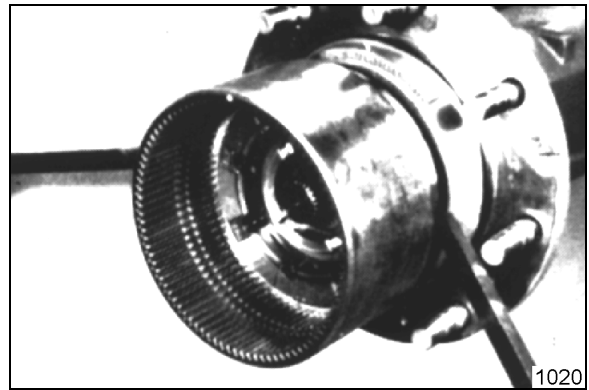

Figure 12
13. Detach ring gear, using pry bars and being careful not to lose beveled washer and O-ring. (Figures 12 and 13)